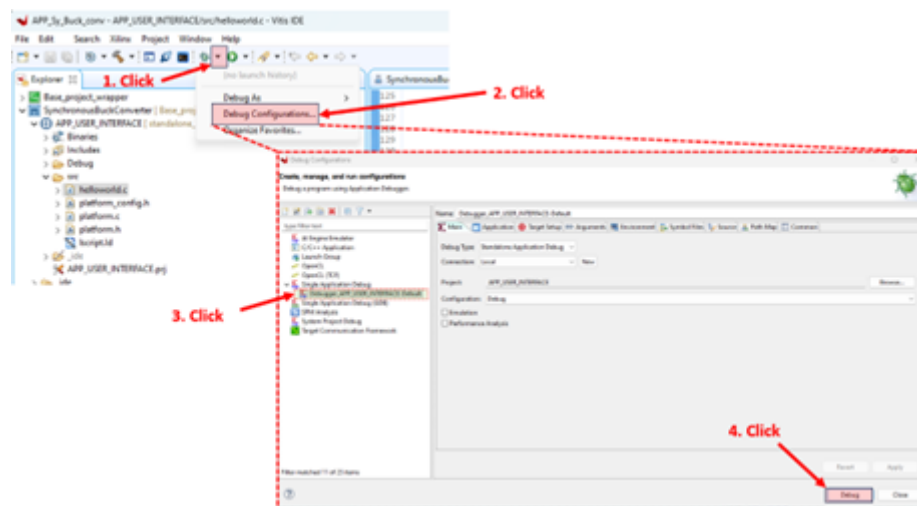

Figure 125: Launching debugger in Vitis IDE I.
1. Limit the memory addresses to which the cortex A53_0 processor has access to avoid data collisions between processors. See the figure 125: